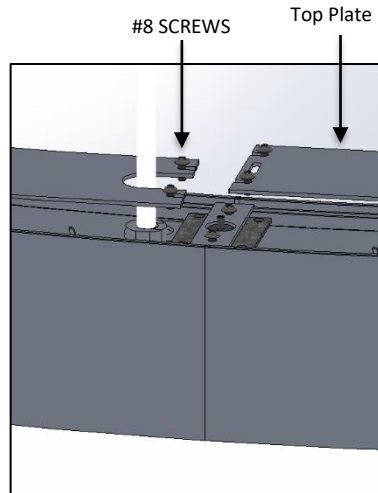

FIG. 25 – TOP PLATE INSTALLATION
25. Install the 6 Aluminum TOP PLATES with the #8 screws provided as shown in FIG. 25.